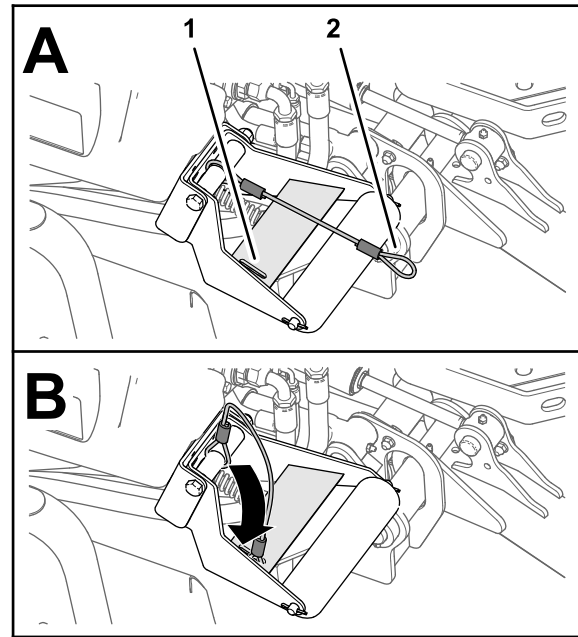

Figure 31
4. With the cutting units lowered, slip the loop of the lanyard into the slot in the reinforcement plate of the roller support (Figure 31).